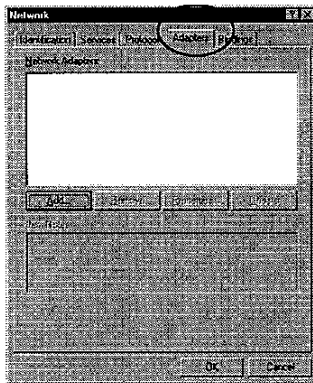

Figure 26. Network
step2. Double-click the *Network* icon to open the *Network* window. Select the *Adapters* card (see Figure 26)